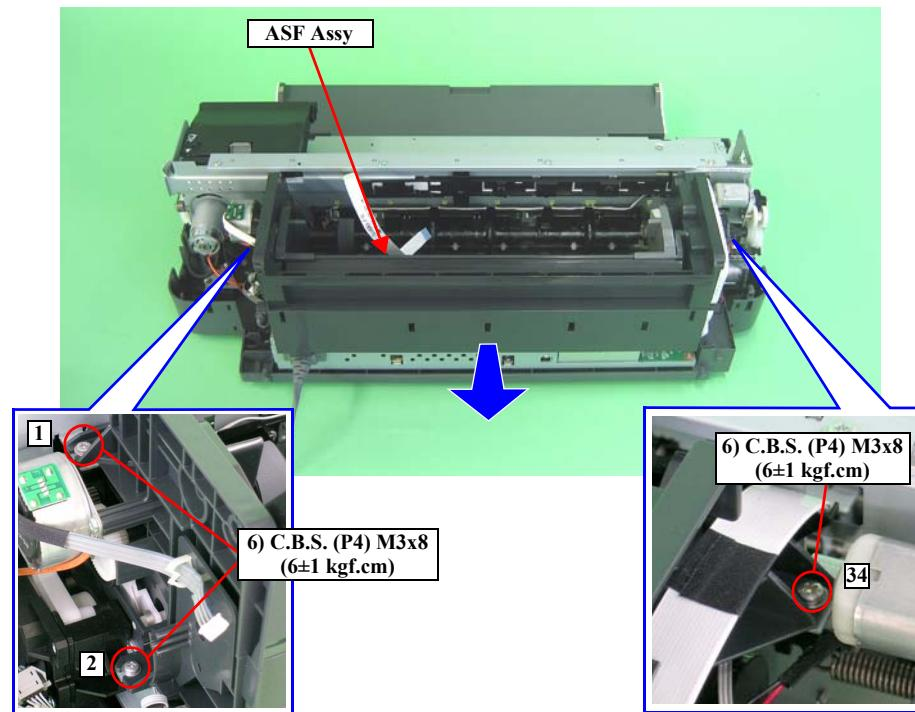

Figure 3-89. Removing the ASF Assy
- Tighten the screws in the order shown in Figure 3-89.